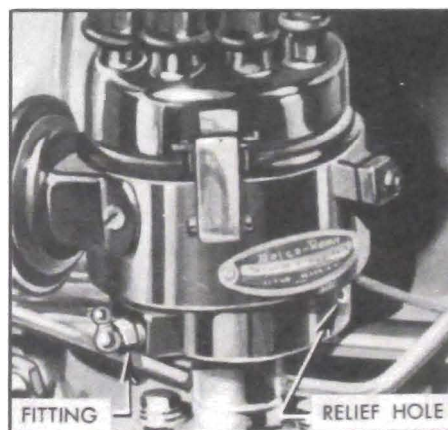

Figure 1-5—Distributor Shaft Lubrication
7. **Distributor.** Lubricate shaft with chassis lubricant through fitting on housing; the proper amount of lubricant is indicated by lubricant emerging from relief hole in front of distributor housing in a continuous unbroken stream. See figure 1-5.